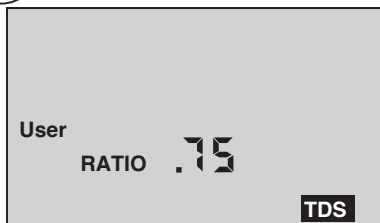

Figure 4
- b. Press $\frac{\text{CAL}}{\text{MCLR}}$ twice (to skip over tempco adjustment) and “RATIO” will appear (see Figure 4).